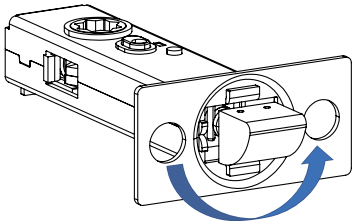

Figure 2
- Decide the installation direction according to the direction of door opening, rotate the latch bolt head (Figure 2) to desired direction before installation (if needed).